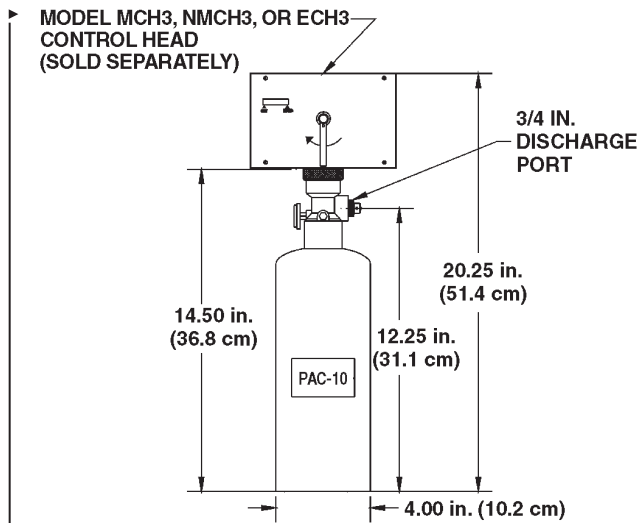

Figure 2-8. Model PAC-10 Pneumatic Actuating Cylinder.
The Model PAC-10 is a pneumatic actuating cylinder that can actuate a maximum of ten (10) agent cylinders simultaneously. The Model PAC-10 includes a DOT 4BA350 cylinder pressurized with dry nitrogen to 350 PSIG @ 70° F, a brass valve with pressure gauge, and a wall mounting bracket. A Model MCH3, NMCH3 or ECH3 control head must be purchased separately and connected to the PAC-10 to open the valve. See Figure 2-8.